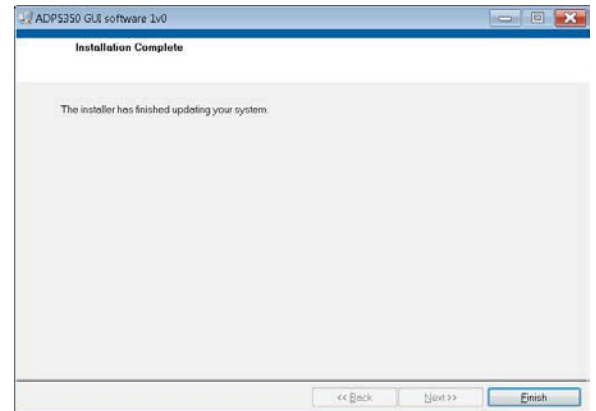

Figure 5. Installation Complete
4. Click **Finish** to complete the installation (see Figure 5).